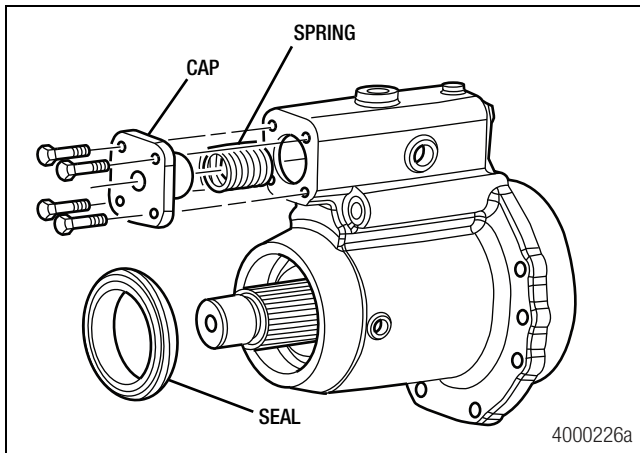

Figure 8.12
- m. Insert the spring into the housing over the push rod. Figure 8.12.
- n. Apply a thin film of Loctite® 518 gasket material to the cap surface. Install the cap with the 1/4-20 screws using Loctite® 242 sealant. Tighten the screws to 10-14 lb-ft (14-19 Nm). Figure 8.12.